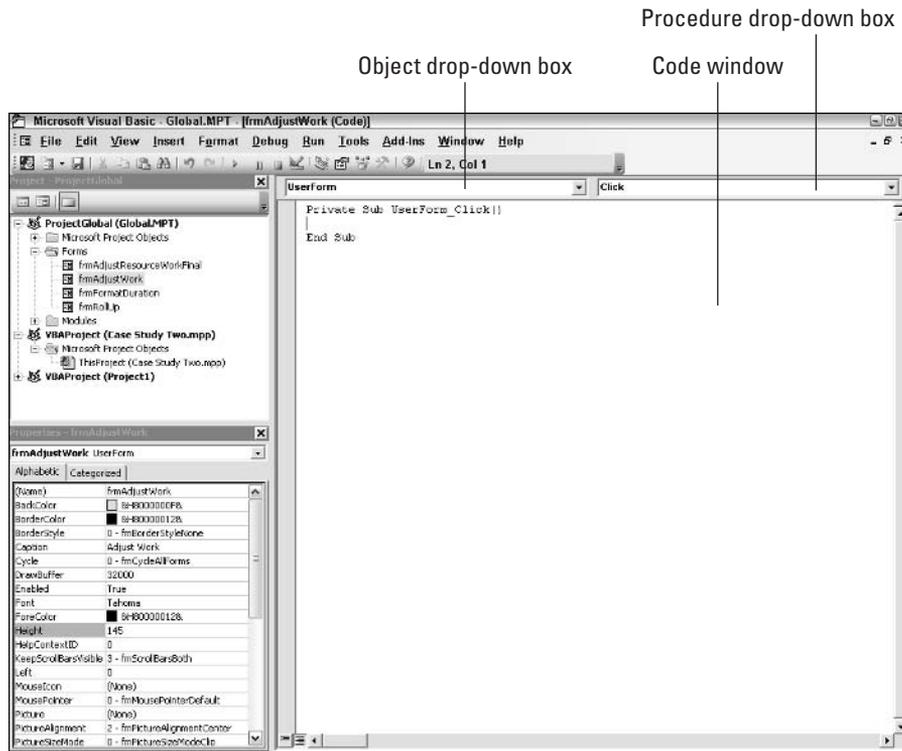

Figure 25-20: The Code window for the UserForm allows you to add resource names to the ComboBox when the UserForm loads.
1. Click anywhere on the UserForm (other than directly on a control), and choose View⇨Code. The Code window for the UserForm appears, as shown in Figure 25-20.